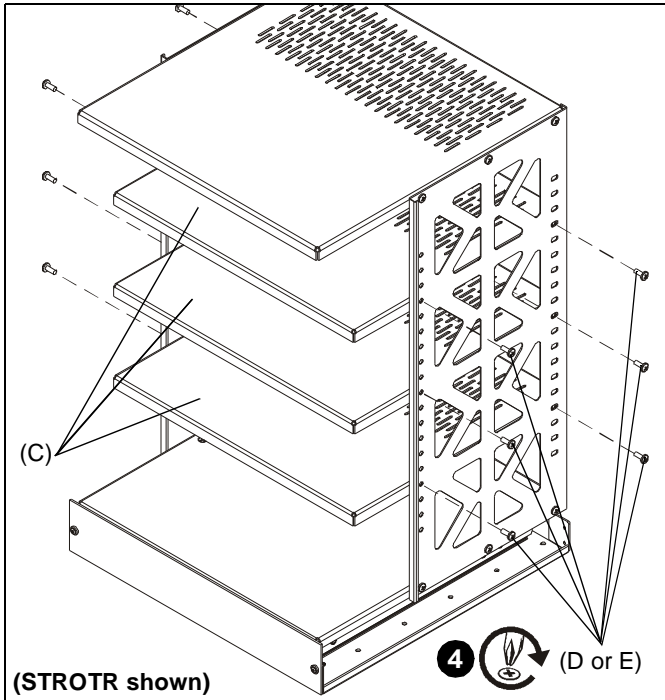

Figure 5
- Loosely assemble shelves (C) to side mounting plates (G) using two fasteners (D - for WROTR; E - for STROTR) on each side, four fasteners total per shelf. (See Figure 5)